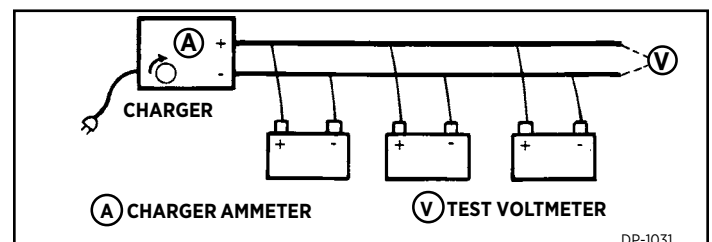

FIGURE 2.
charging current is divided and each battery receives only the charging current it can accept at the charger's voltage. (See Fig. 2 for typical hook-up.) Because of these differences, the charging procedures also differ.
2. Connect batteries and test voltmeter to charger as shown in Figure 2. Make sure that all connections are clean and tight. Set charging voltage setting to a setting that does not exceed 16.0 volts. The charger may not be able to reach this voltage initially, but as batteries become charged and accept less current, the voltage will rise. The ammeter of the charger is indicating the total current flow to the connected batteries. This current divides into the various batteries. It is not a measure of each battery's current acceptance. Do not exceed the charger's capabilities by connecting too many batteries. Follow the charger manufacturer's directions.